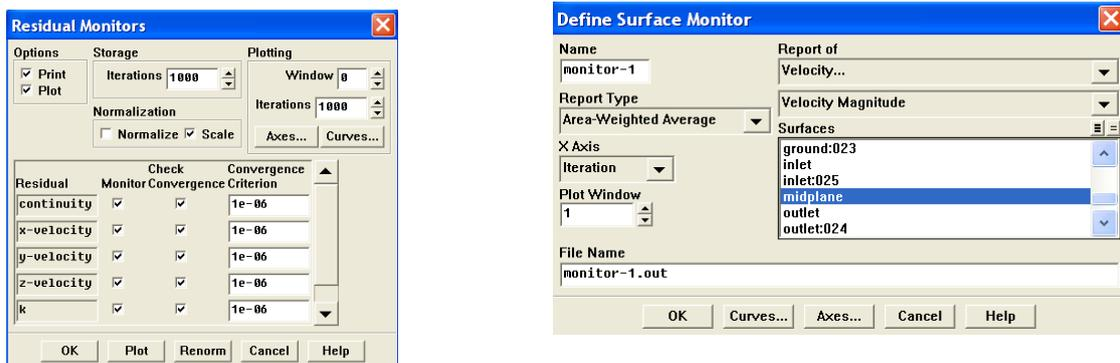

Fig. 14 Modification of convergence criteria. Fig. 15 Definition of surface monitor
- (b) Change Convergence criteria for continuity, x, y, z velocities k and epsilon to 1e-06. (see Fig. 14)